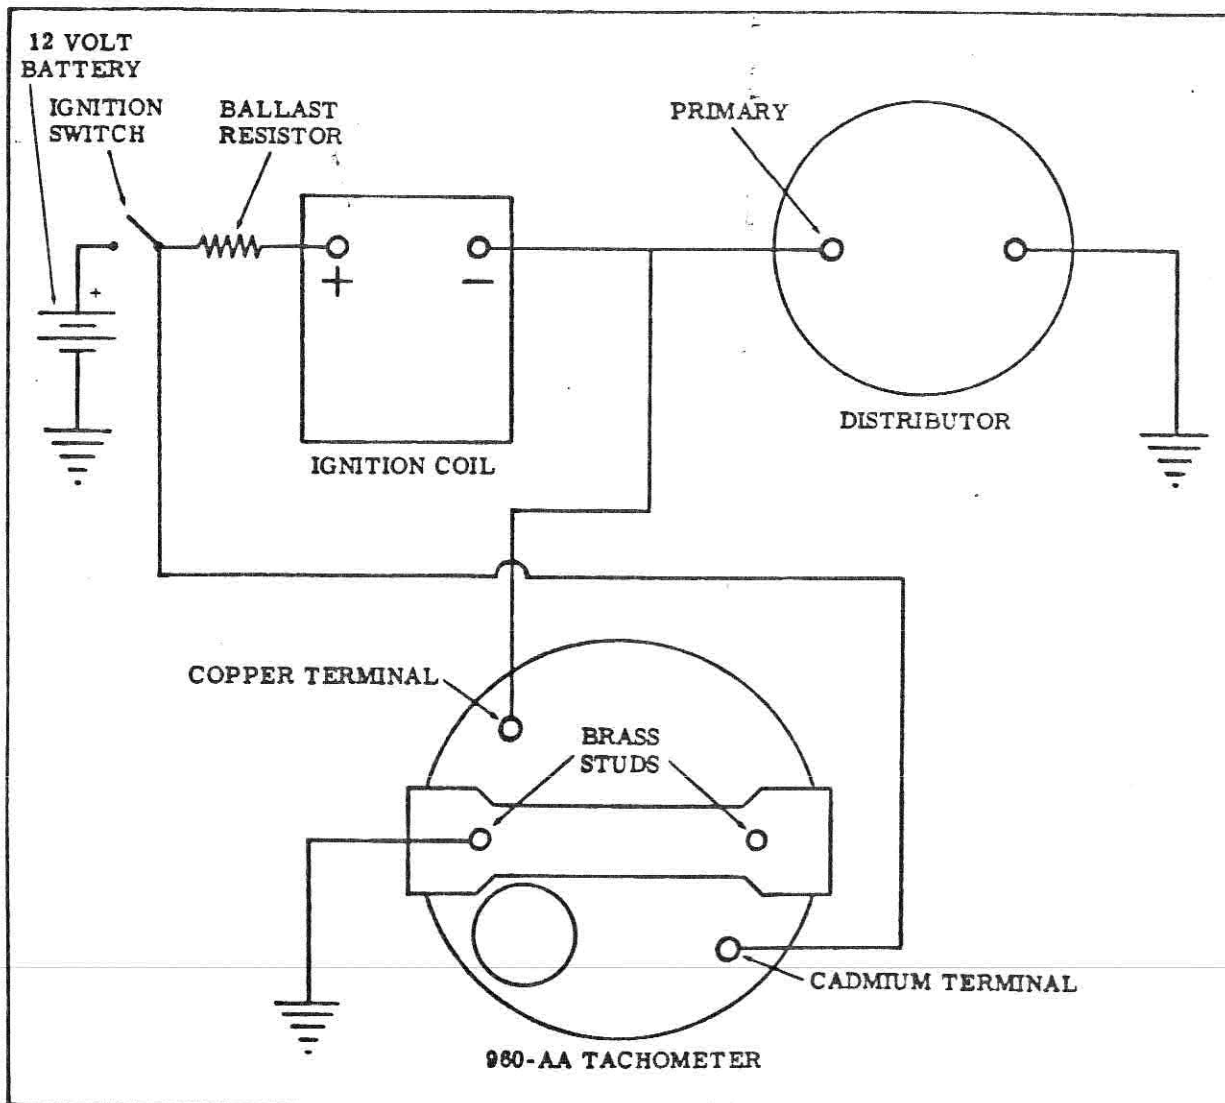

Figure 3 Wiring Diagram
4. Feed wires through panel hole, from the rear and attach to back of tachometer. See Wiring Diagram. Figure 3.
7. Wire according to WIRING instructions and Wiring Diagram. Figure 3.
2. Feed wires through grommet and attach to tachometer as in Wiring Diagram. Install light socket and bulb. Figure 3.
1. Disconnect ground cable from battery. Refer to Wiring Diagram while making installation. Figure 3.